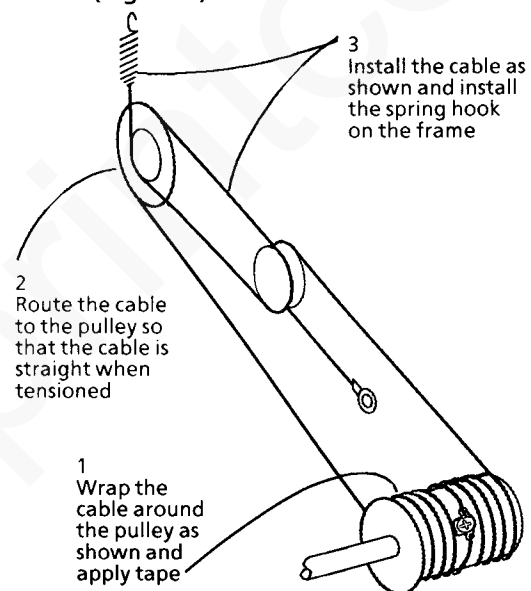

Figure 6. Installing the Rear Scan Cable
8. Install the remaining portion of the rear cable (Figure 6).